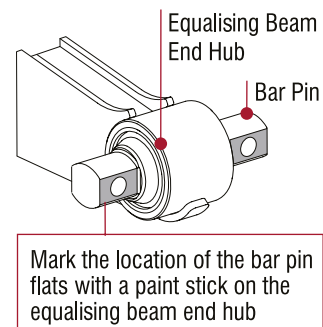

Figure 32: Marking End Bush Position
3. Prior to removal, note the orientation of the bar pin flats, refer Figure 32. Mark orientation on the equalising beam with a paint stick.